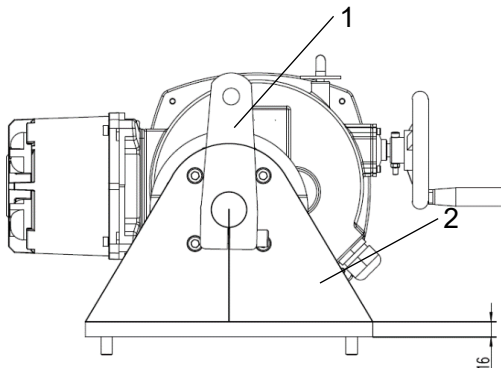

Fig.1
1. Make sure the installation space and platform are proper for actuator. The size of actuator and its base, please to refer fig. 1